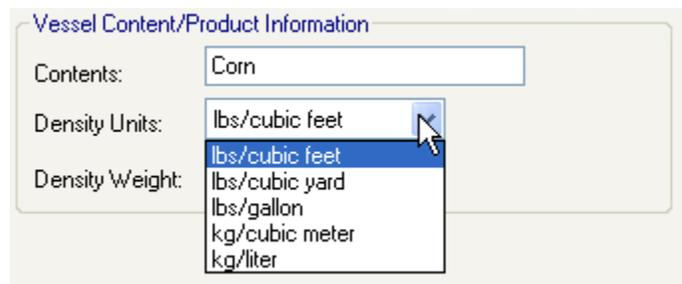

Figure 15
**Density Units** Defines the units associated with Product Density weight (Figure 15). Options are lbs per cubic feet or gallon or yard and kg per cubic meter or liter.